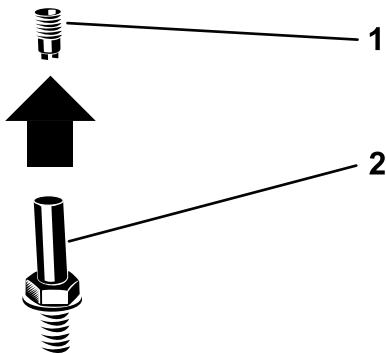

Figure 5
2. Remove the beacon connector from the beacon socket (Figure 5).